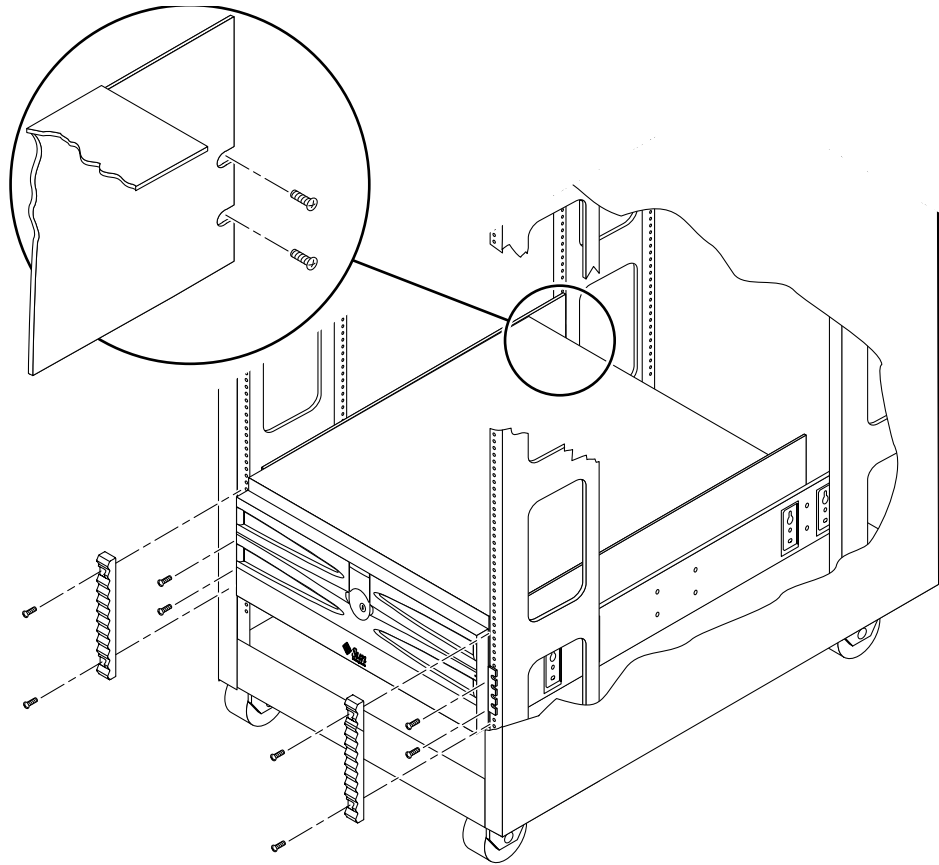

FIGURE 7 Installing the Screws That Connect the Tray and That Connect the Trim Strips to the Cabinet
For an illustration of the placement of the screws that secure the tray to the cabinet, see FIGURE 7.
6. Insert and tighten two 10-32 x 1/2 in screws in the designated holes to connect the back of the tray to the rails at the back of the cabinet (FIGURE 7).
7. Insert and tighten two 10-32 x 1/2 in screws securing the front of the tray to the mounting rails at the front of the cabinet (FIGURE 7).
8. **Place one trim strip at the right and another trim strip at left side of the front of the array, and insert and tighten the attached screws into the matching holes in the rails at the front (FIGURE 7).**
FIGURE 7 shows the trim strip being applied after the screws connecting the tray to the front of the cabinet.